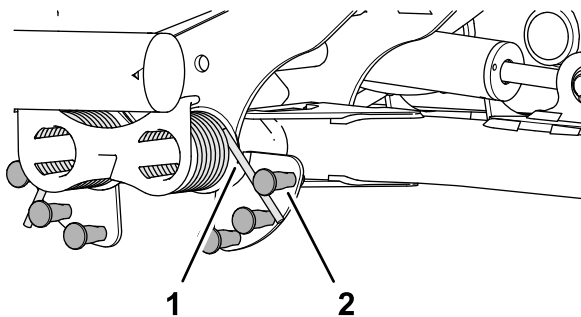

Figure 84
2. Insert the long end of the counterbalance spring into a tube or similar object, and pivot the spring around the shouldered stud to the desired position (Figure 84).